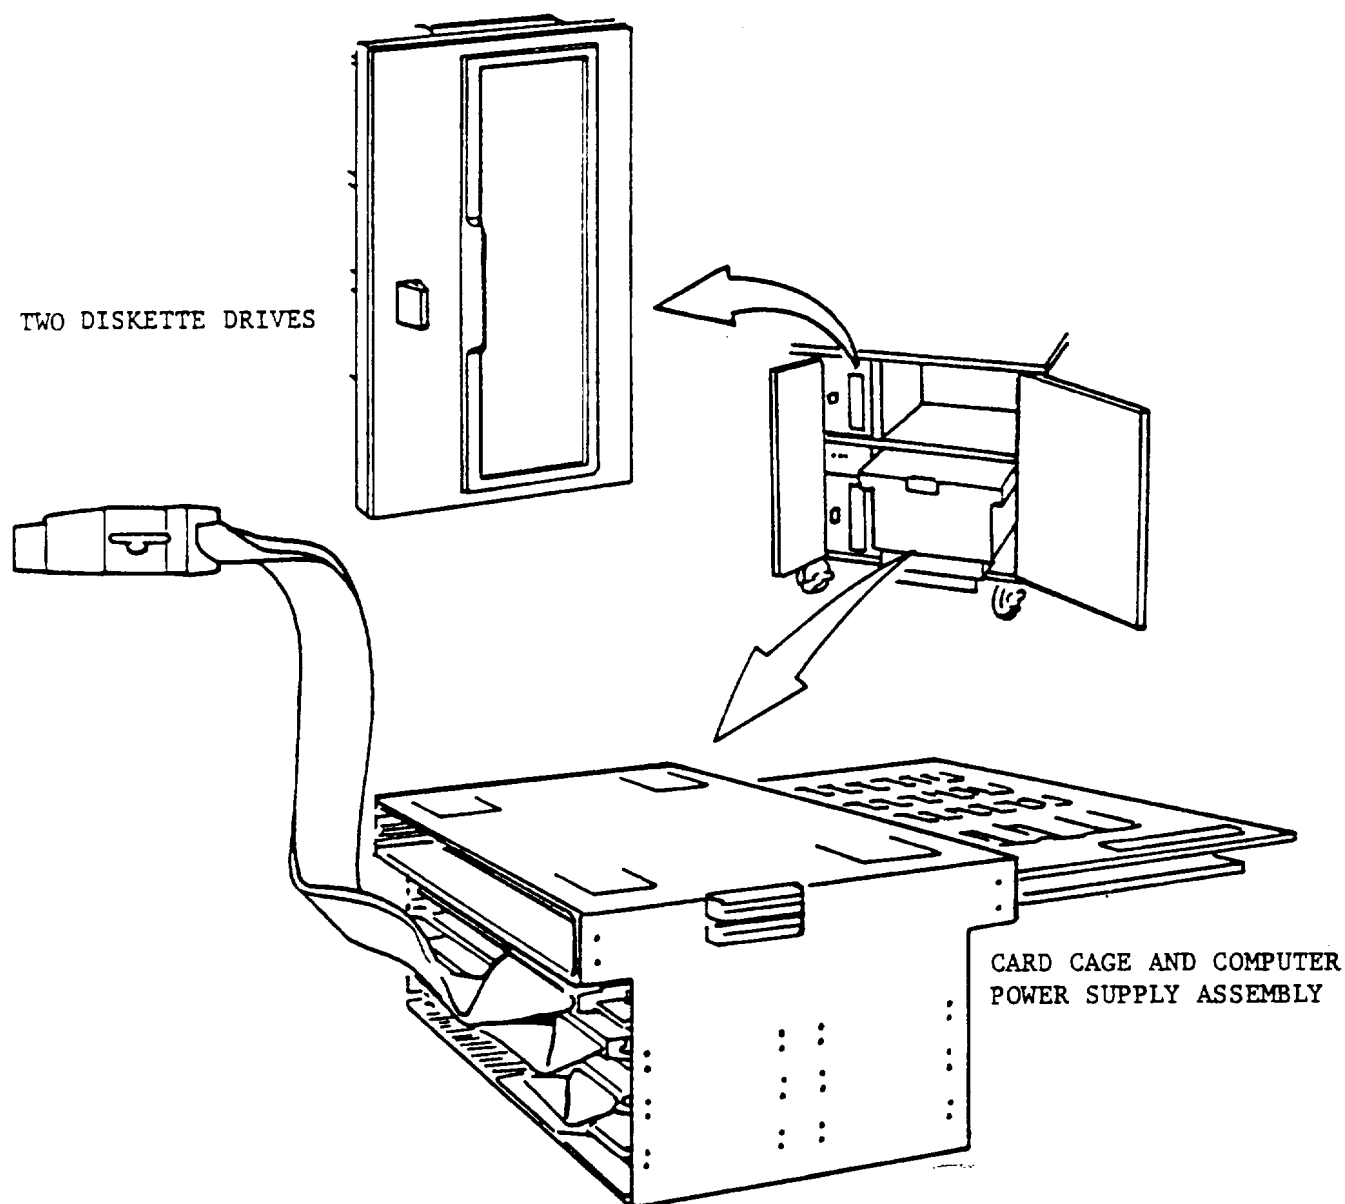

Figure 1-2. Computer
b. Computer. The computer (fig. 1-2) monitors the condition of system indicators and switches. It modifies the simulation in accordance with programmed directions received from the control console. The computer also changes displays on the control console and the display panel in accordance with student actions. The computer is composed of the card cage, computer power supply assembly, and two flexible diskette drives. The flexible diskette, which is inserted in the upper drive by the instructor, contains the computer program. Paragraph 2-2e gives directions for loading the flexible diskette in the drive unit.